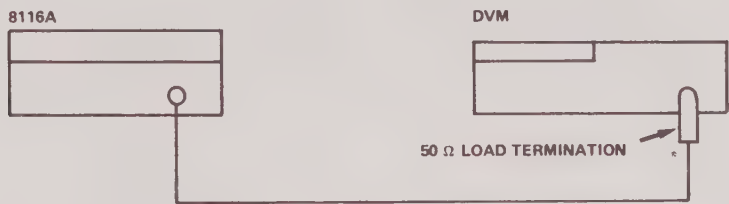

Figure 4-16. Test setup for DC Voltage
- 1. Connect the equipment as shown in Figure 4-16.